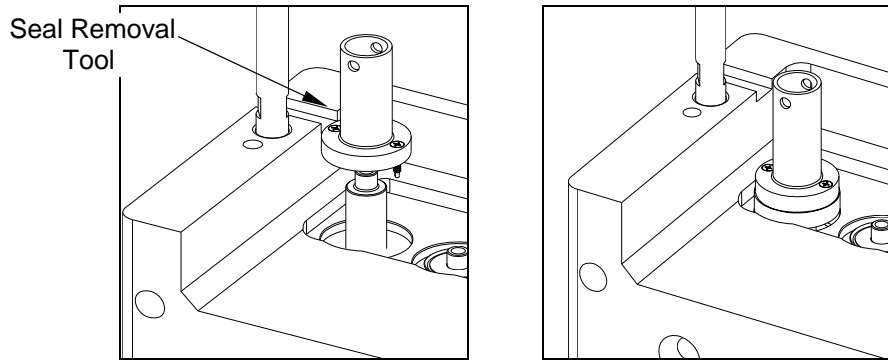
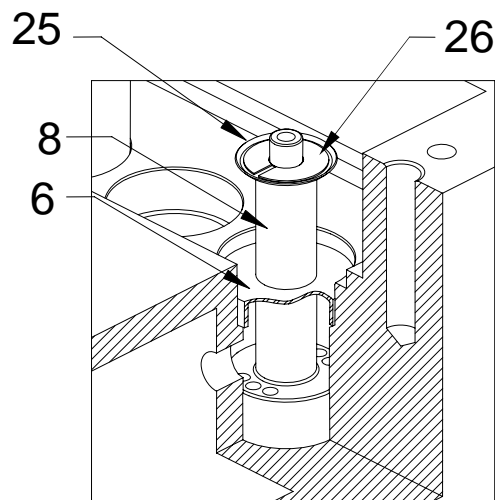
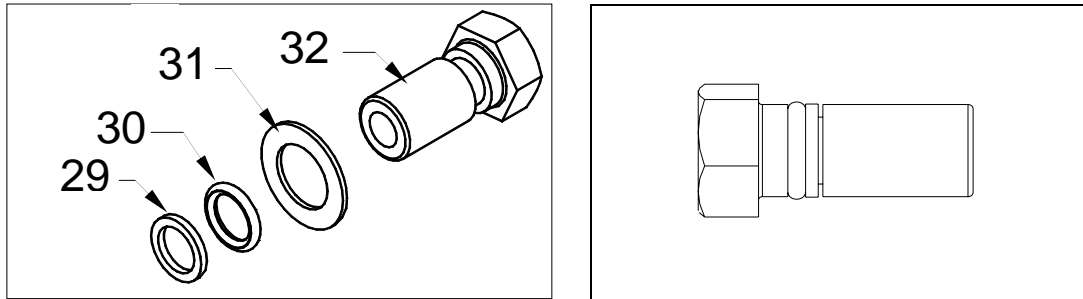
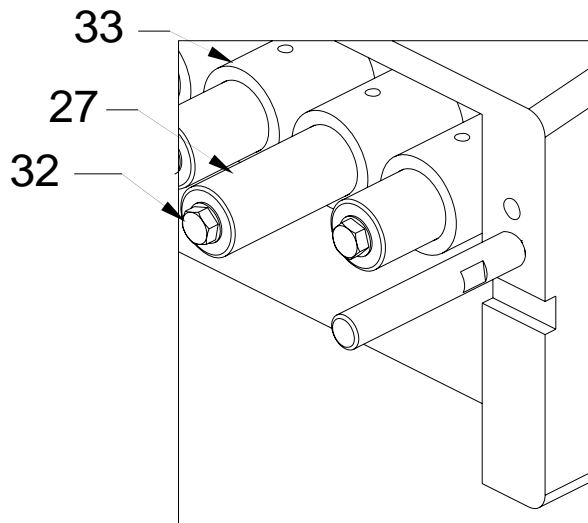

Fig. 3: Oil Seal Removal View
Fig. 4: Plunger Assembly View
Fig. 5: Plunger Retaining Nut Assembly
Fig. 6: Seal Retainer
Remove the seal retainer (33) and set aside, see Fig.6. Remove the plunger retainer nut (32) with a 9/16" wrench and set aside. Remove the plunger retainer washer (31), and back-up ring(29), Fig.5, and remove the ceramic plunger (27). Remove the keyhole washer (26), then remove the slinger (25), see Fig.4. Using the seal removal tool in Fig.3, drive the screws into the plunger rod oil seal(6) and use the lanyard(provided with tool) to remove the seal from the crankcase bore. Inspect the seal retainer washers for damage; if none evident then reuse; if damage is evident consult the factory.
Insert new plunger rod oil seal (6) into crankcase ensuring that the seal is fully seated. Place slinger (25) onto the plunger rod (8), followed by the keyhole washer (26) as shown in Fig. 4. Chase the thread of the plunger rod and the retainer stud with the tap and die to ensure the removal of any left over loctite prior to reassembly.
Examine the ceramic plungers (27), Fig. 6, for cracks, heavy scoring, or unusual wear. If there is a problem, contact the factory.
Slide ceramic plungers (27) onto plunger rod, and insert the new plunger retainer washer (31) into the plunger. Clean the plunger retaining nuts (32), Fig. 5. With the aid of a pick remove the plunger retainer back-up ring (29) and the plunger retainer o-ring (30). Replace the o-ring (30) and back-up ring (29) with the new one supplied in the kit as shown in Fig. 5.